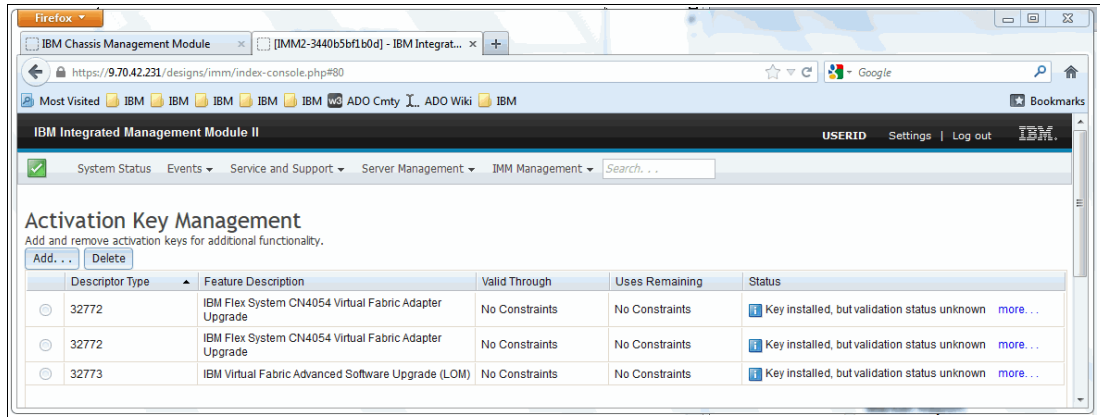

Figure 7-11 IMM Active Key Management
11. If FCoE is not available, log on to IMM using the web interface. On the **IMM Management** menu, select **Active Key Management** as shown in Figure 7-11 and ensure that the appropriate keys to enable FCoE are installed.
- In Figure 7-11, the key is shown in the **Feature Description** column as **IBM Flex System CN4054 Virtual Fabric Adapter Upgrade** and **Key installed** is shown in the **Status** column.